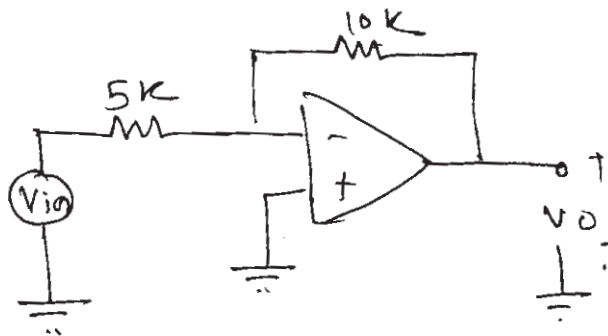

figure 5
- Q12)a)** The input to the inverter is a sine wave of an amplitude 5V. If slew rate of op-amp is $1\text{V}/\mu\text{se}$, find the frequency at which slew rate limiting occurs. Refer figure.5. **[8]**